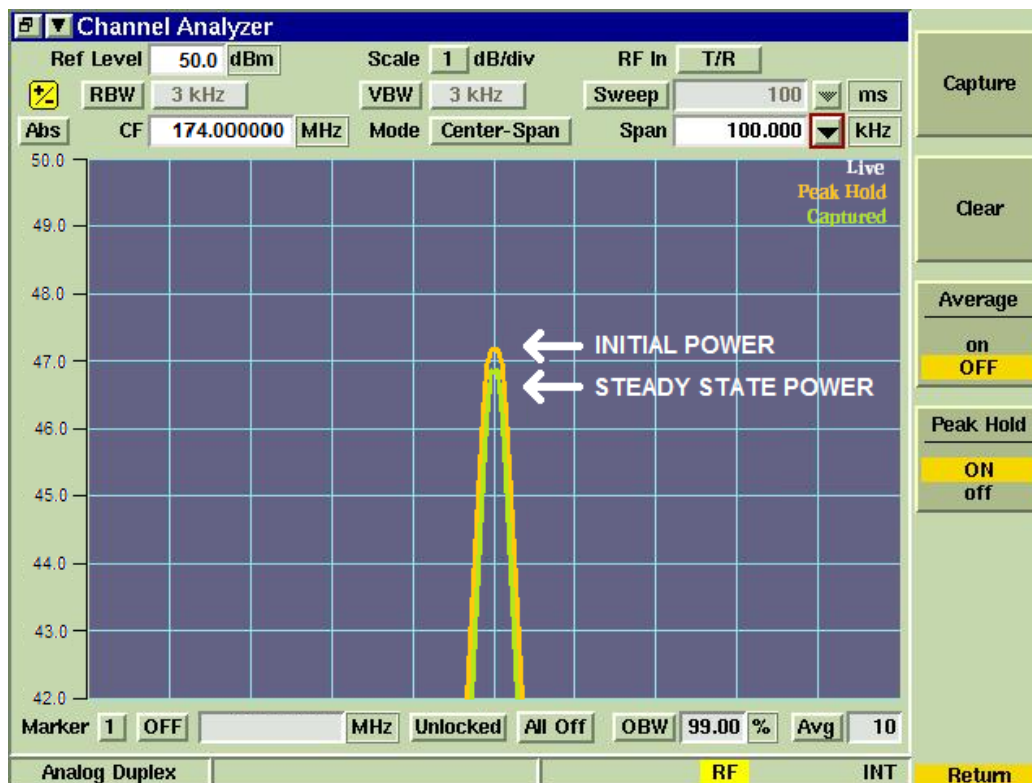

Figure 12-2: Measuring and Aligning APC Input and Output Power with Aeroflex 3920
6. Measure the steady-state transmit power. Figure 12-2 shows the Channel Analyzer function of the Aeroflex 3920.
9. Rekey the radio and measure the initial transmit power. Typically, this measurement is higher than this channel's steady-state transmit power. See Figure 12-2 for an example display.